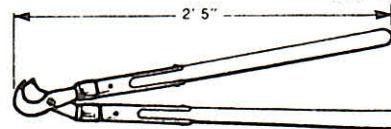

Fig. 19—Pruning Shears
15.01 Pruning shears are wooden handled lopping shears used for cutting underbrush and small tree branches within reach (4 feet or less) of the craftsman when on the ground or in the aerial lift truck. This tool is not meant to take the place of a saw. The pruning shears consist of a pair of cutting jaws bolted together and attached securely to handles 2 feet long. The handles are reinforced with pitch fork handle ferrules. See Fig. 19.